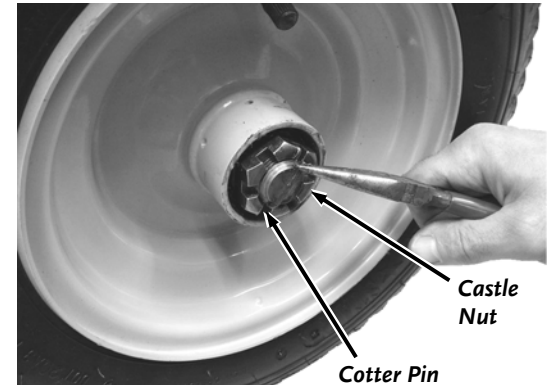

Figure 65
3. Straighten the ends of the Cotter Pin with Needle Nose Pliers so the Cotter Pin can be pulled from the hole in the Axle (**Figure 65**).
7. Screw the Castle Nut onto the Axle and tighten it with an Adjustable Wrench to seat the Bearings (**Figure 65**).